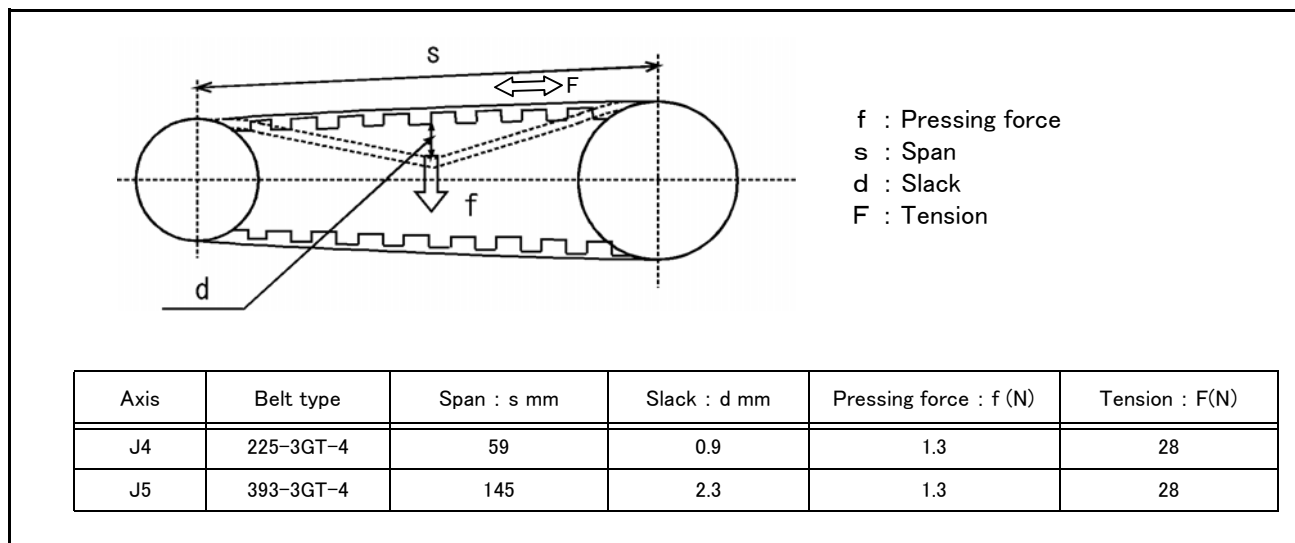

Fig.5-8 : Belt tension
- 4) Confirm that the belt tension is adjusted to slacken approx. 0.9mm when the center of the belt is lightly pressed with a finger (approx. 1.3N) as shown in "Fig.5-8 : Belt tension".
- 3) Visually confirm that the symptoms indicated in "(1) Timing belt replacement period" have not occurred with the timing belt.
- 4) Confirm that the belt tension is adjusted to slacken approx. 2.3mm when the center of the belt is lightly pressed with a finger (approx. 1.3N) as shown in "Fig.5-8 : Belt tension".
The detailed adjustment (tension) is shown in Fig. 5-8.